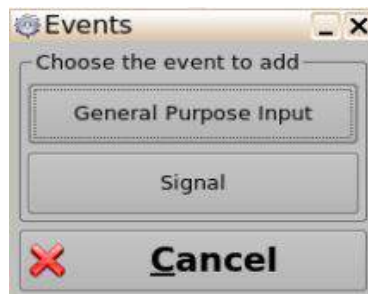

Figure 29: Events Window
- The Events window will be prompted (Figure 29).